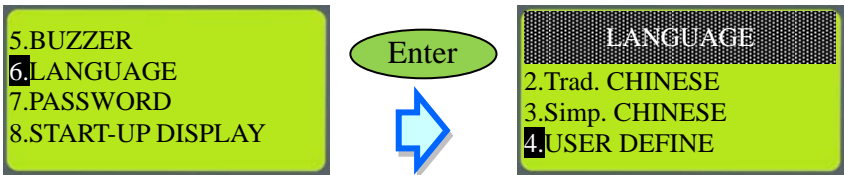

Figure 3-6 Menus displayed on the screen of a TP series text panel
- (4) After the users edit the menu they want to modify, they have to touch **1. D/L AP TP04G** ← PC on the screen of the TP04G series text panel used. “WAIT COMM...” will be displayed on the screen of the TP04G series text panel used after **1. D/L AP TP04G** ← PC is touched.
- (5) The users have to click **Write Menu to TP** on the **Communication** menu. **Write Menu to TP** is usually shown in grayscale. Only when the **User Menu Setting** mode is used can **Write Menu to TP** be clicked. After the users click **Write Menu to TP**, the 21 user menus will be downloaded to the TP04G series text panel used.
- (6) The users have to touch **TP04G SETUP** on the main menu displayed on the screen of the TP04G series text panel used. They have to touch Language, press Enter on the panel, and select **USER DEFINE**. After **USER DEFINE** is selected, the user-defined language can be used, as shown in Figure 3-6.